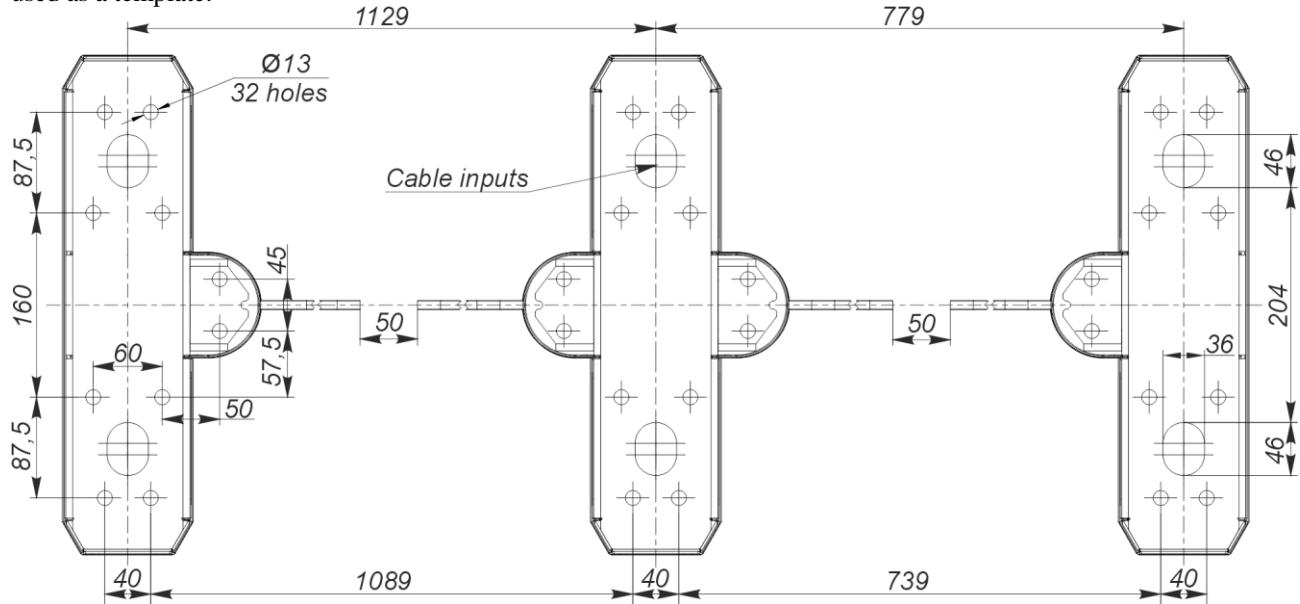

Fig. 16 – Installation dimensions of the "SWEEPER-SH-1" and "SWEEPER-SH-2" turnstiles set
- 5) The turnstile fixation holes to be marked on the area surface according to Figure 16. The turnstile it self can be used as a template.
10) The cable outlet location to be aligned with the hole on the turnstile mounting plate (*Fig.16*).
- 5 align fixation holes at the turnstile bottom plate with the prepared surface holes according to the marking shown in *Fig.16*;